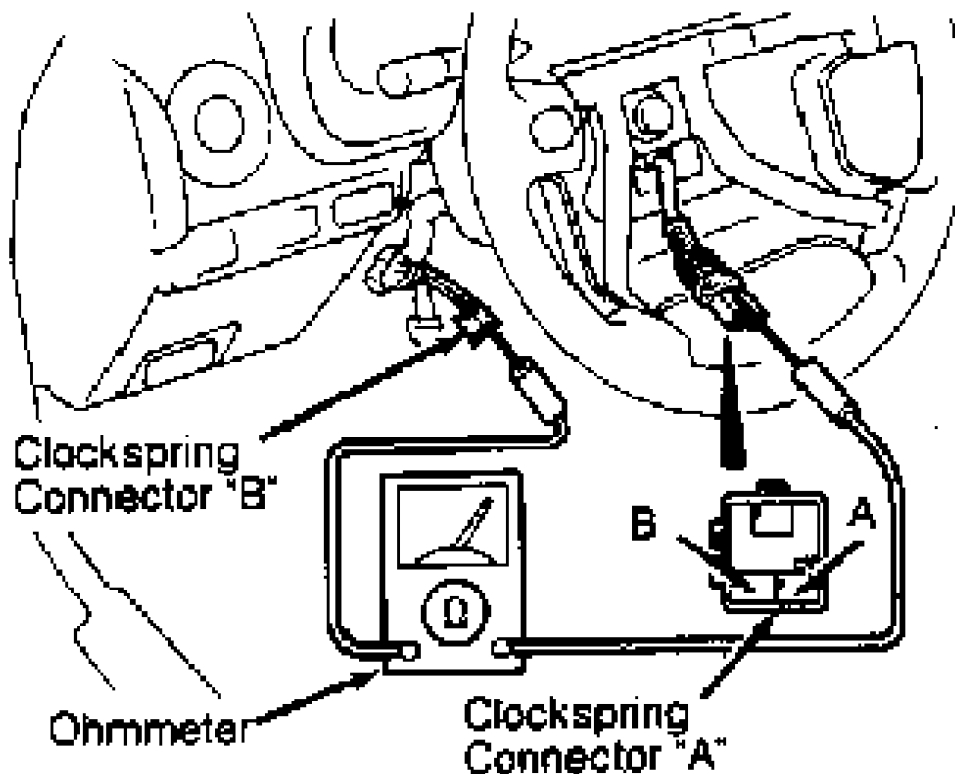

Fig. 14: Checking Resistance at Clockspring Terminal
2) If connection is okay, disconnect air bag module and clockspring connector. Check continuity, as shown in illustration, for both terminals of Blue side of clockspring connector. See Fig. 14. If continuity is not present, replace Orange/Blue clockspring connector.